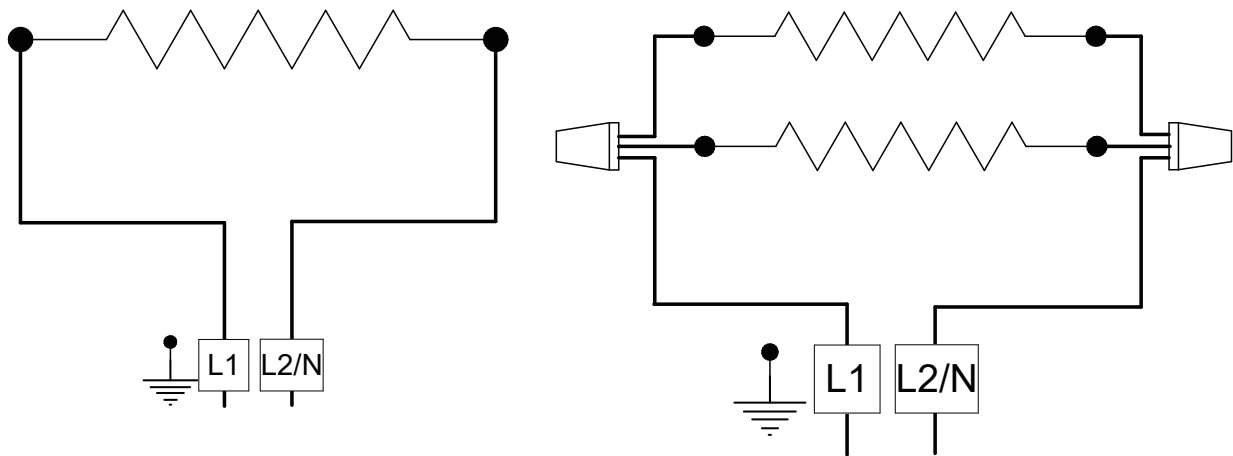

Figure 8: Left, wiring diagram for models 2424, 1448 and 1460. Right, wiring diagram for model 2448.
3. Carry out the electrical wiring as shown in Figure 8.